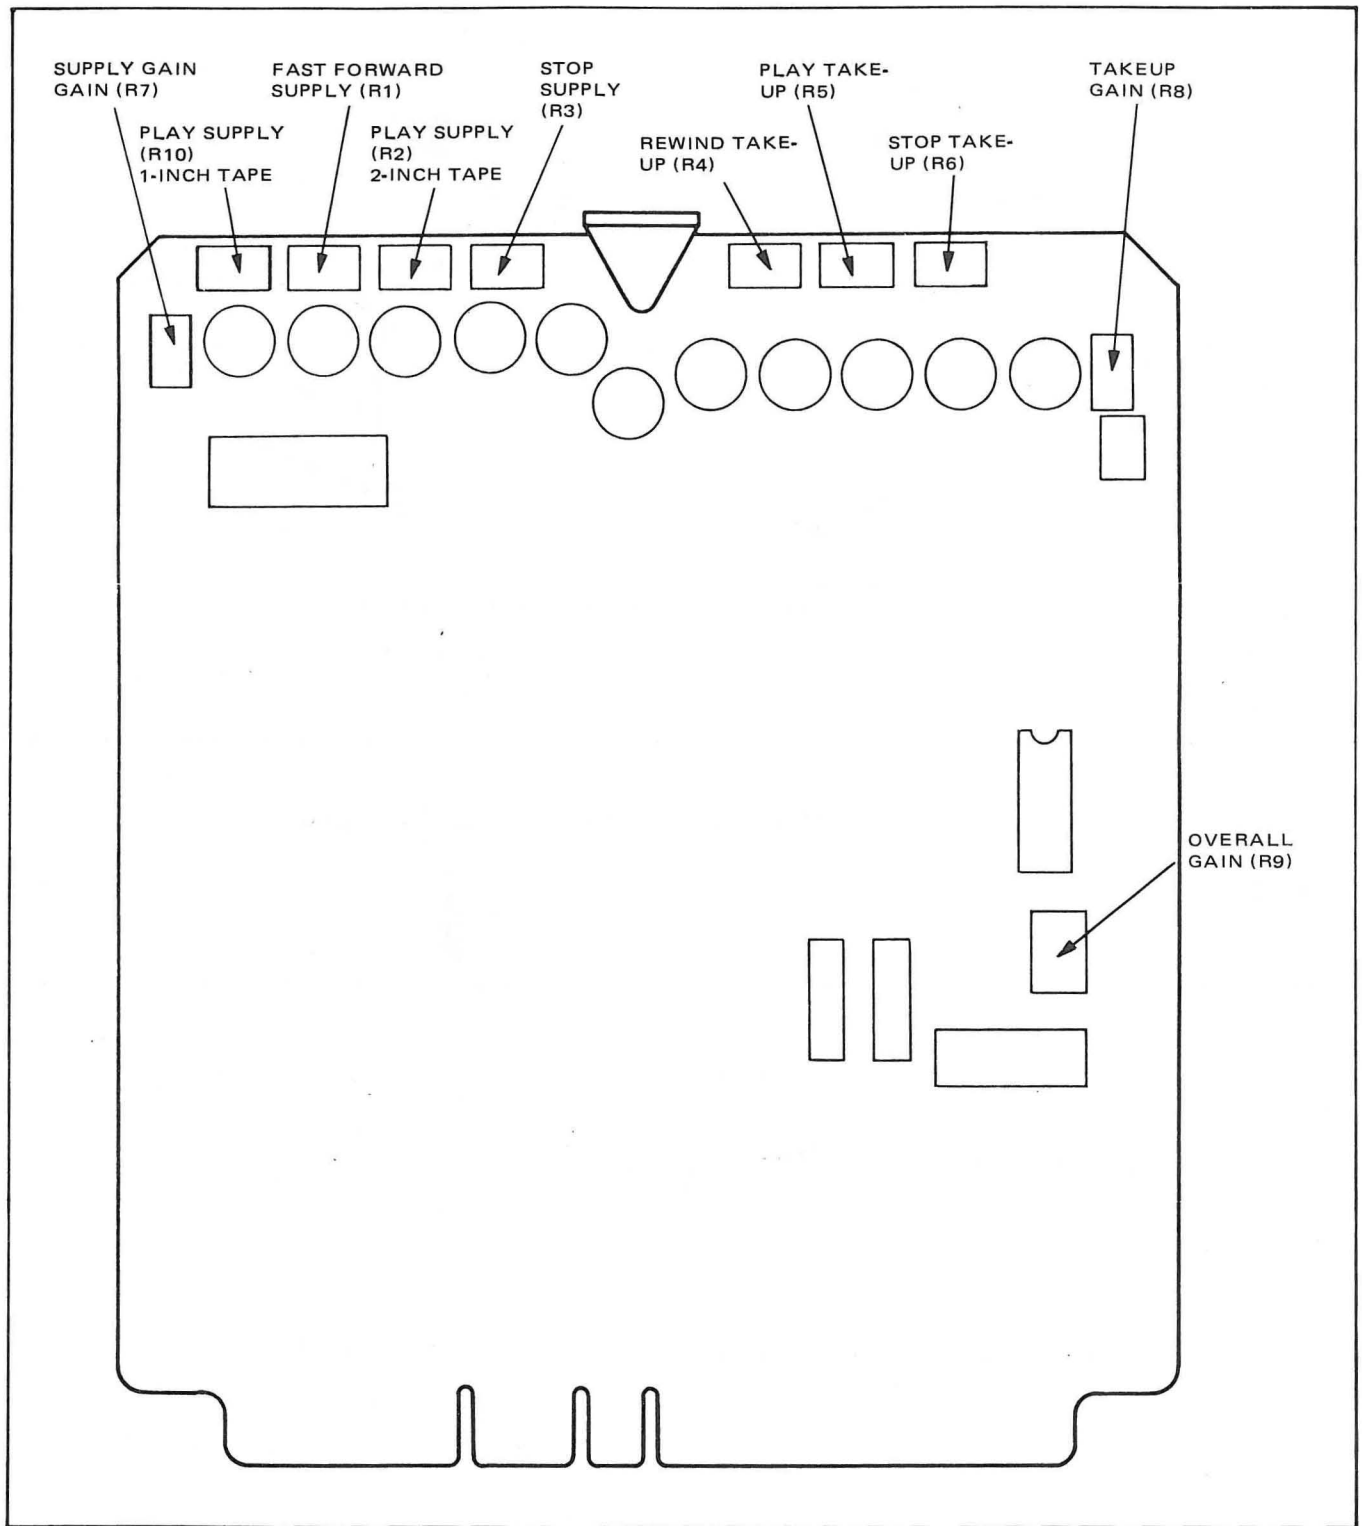

Figure 5-1. Transport Control PWA, Control Locations
2. See Figure 5-1 for location of potentiometer controls and position controls as follows: R1 through R6, and R10 fully ccw; R7 and R8 fully cw; R9 mid position.